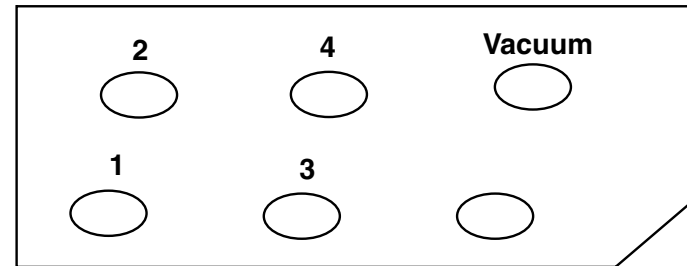

Figure B-1: Internal Manifold (Front/Top Edge)
- Connect tube “A” exiting top of flowmeter to vacuum supply (See *Figure B-1*)